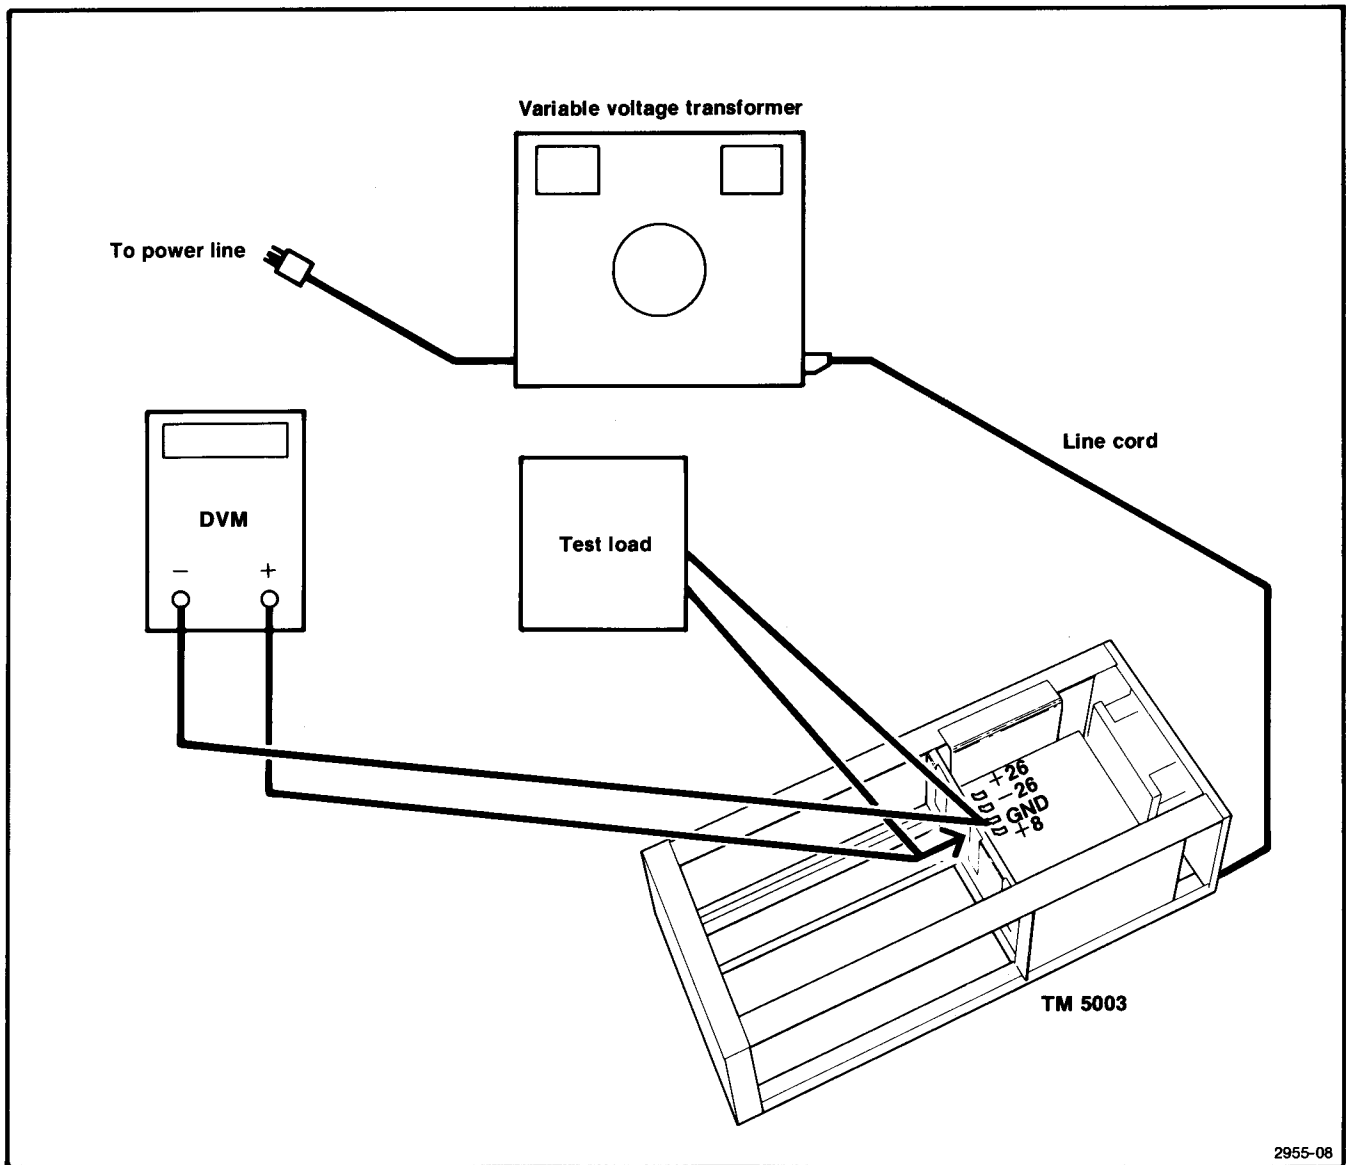
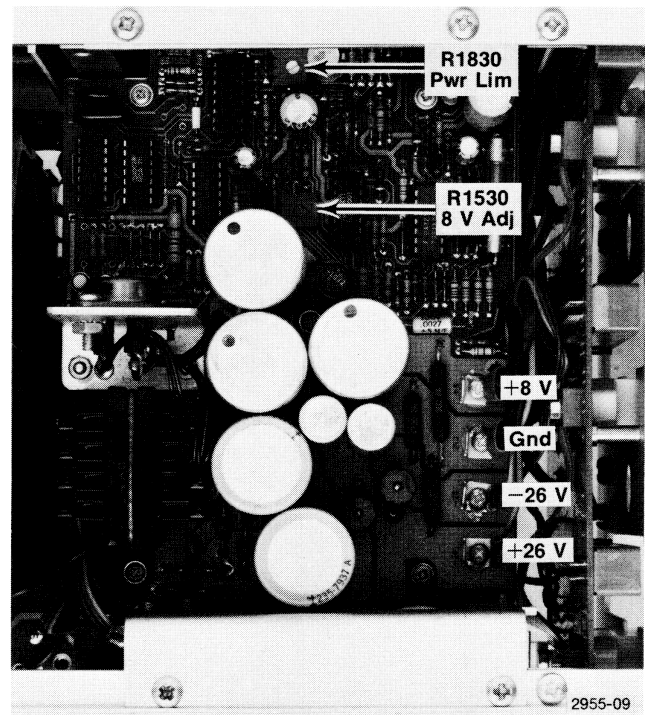

Fig. 4-2. Test setup for performance check steps 1, 2 and 3 and location of connections for adjustment step 1.
Fig. 4-3. Locations of voltage buses and adjustments.
a. Connect the test equipment as shown in Fig. 4-2. Adjust the line voltage to the TM 5003 for 10% below the nominal line voltage.
Remove the top cover to gain access to the +8 V and ground buses and the adjustment. Figure 4-3 shows the adjustment locations.
a. Connect the dmm to the +8 V and Gnd terminals as shown in Fig. 4-2. The voltage bus location is shown in Fig. 4-3.